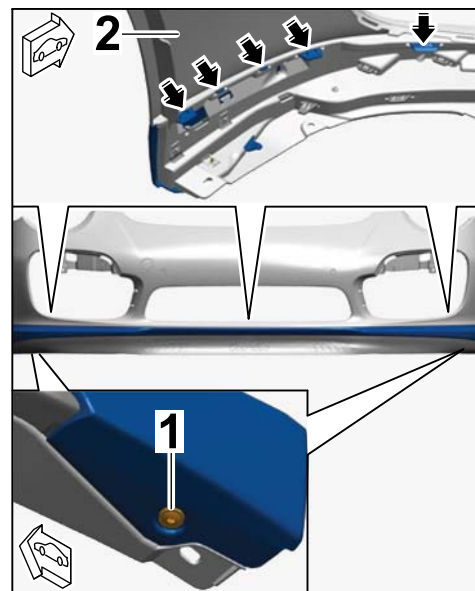

Figure 4
- 2.2.3 Unclip spoiler trim from front apron (⇒ *Figure 4*).